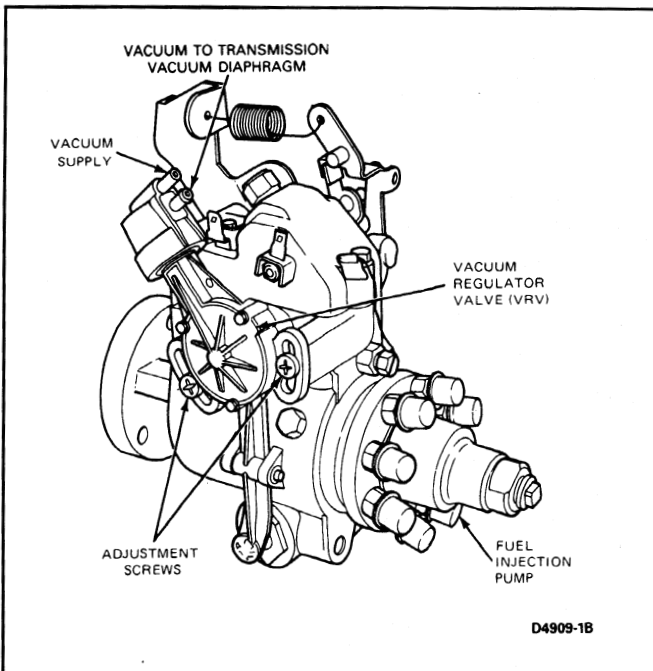

FIG. 4 Vacuum Regulator Valve (VRV)—E-250—E-350, F-250—F-350 with 6.9L Diesel Engine
Refer to Fig. 4
7. To adjust, loosen the two adjustment screws that attach the VRV to the fuel injection pump (Fig. 4). Rotate the VRV until the proper vacuum is obtained. Tighten the two adjusting screws to 8-10.5 N·m (75-90 in-lbs) when the proper vacuum reading is obtained. If the VRV can not be adjusted to obtain the proper vacuum, replace the VRV and repeat procedure in Step 3.